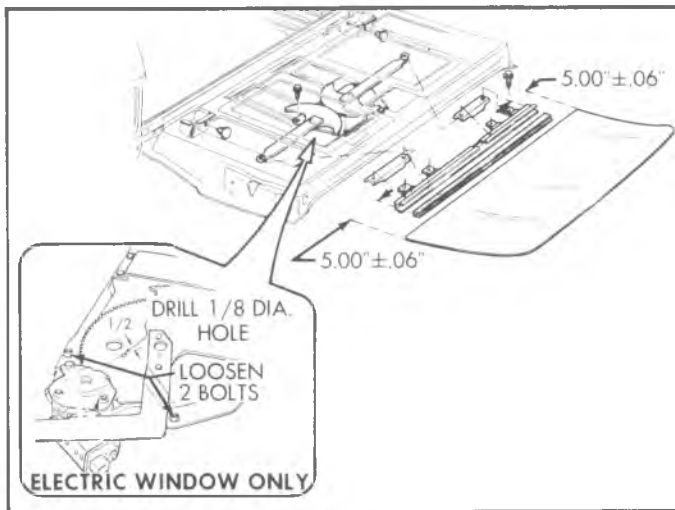

Fig. 53—Window Glass and Regulator—(06 Only)
6. Remove screws connecting cam assemblies to sash assembly, figure 53, then remove cam assemblies.
9. Remove screws connecting window regulator assembly to endgate, figure 53, and remove regulator.
- a. Drill a 1/8 inch hole through the sector gear and back plate, as shown in figure 53. Install a sheet metal tapping screw into the hole to lock the sector gears in position.